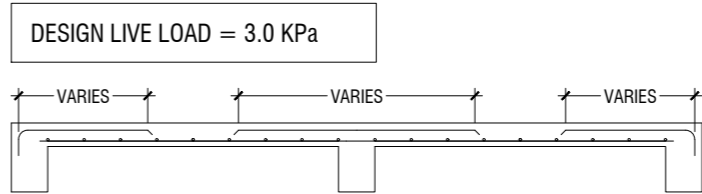

FIGURE 1(STANDARD SLAB DESIGN)
A. ALL SLAB REINFORCEMENTS SHALL HAVE A CLEAR DISTANCE OF 30mm FROM THE BOTTOM AND FROM THE TOP OF SLABS. (see figure 1).